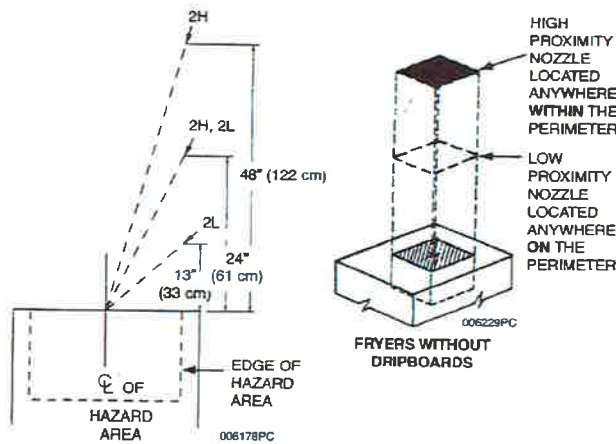

Figure 3-3.
The Model 2H nozzle, Part No. 551028, is used for high proximity fryer protection. This nozzle is a two (2) flow nozzle. The nozzle must be located **anywhere within the perimeter** of the hazard area, 24 in. to 48 in. (61 to 122 cm) above the cooking surface of the appliance and aimed at the center of the cooking area. See **Figure 3-3**.
The Model 2L nozzle is used for low proximity fryer protection. This nozzle is a two (2) flow nozzle. The nozzle must be located **anywhere on the perimeter** of the hazard area, 13 in. to 24 in. (33 to 61 cm) above the cooking surface of the appliance and aimed at the center of the cooking area. See **Figure 3-3**.
► **Figure 3-3.**